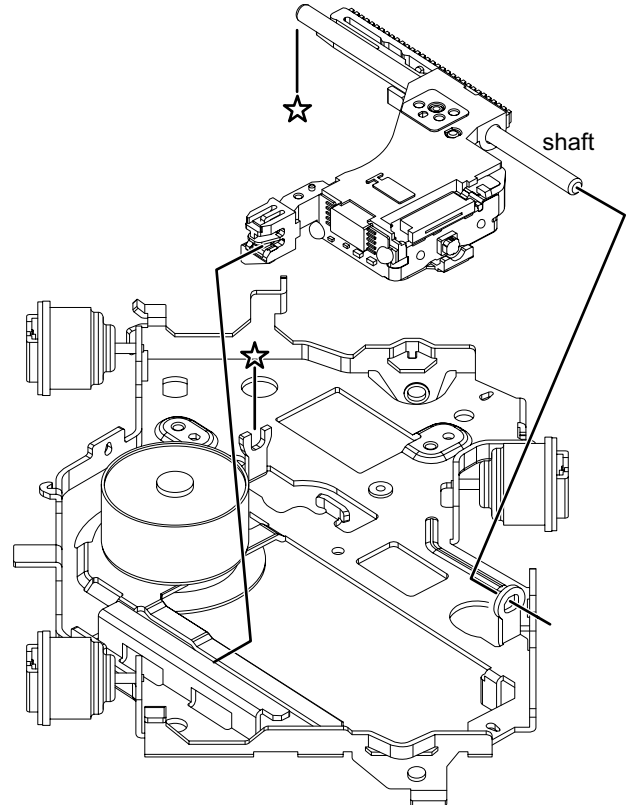

Fig.7
- (2) Remove the shaft from the TM base. (See Fig.7)
- (3) Disengage the hook **a** on the pickup from the TM base. (See Fig.7)